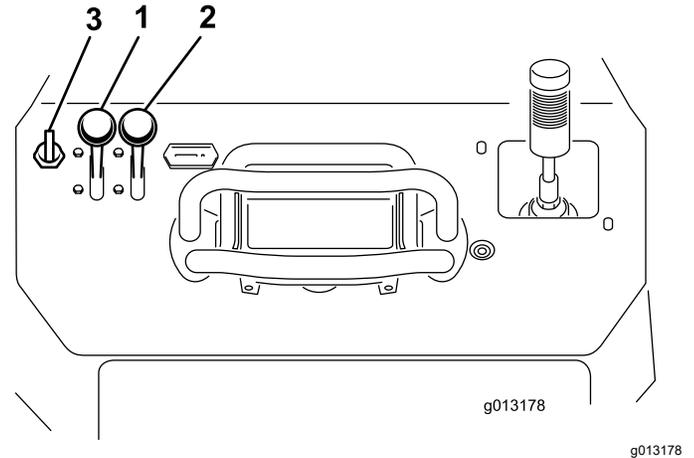

Figure 17
1. Move the throttle lever midway between the SLOW and FAST positions (Figure 17).
2. Move the choke lever to the ON position (Figure 17).
3. Turn the key to the ON position (Figure 17). When the engine starts, release the key.
4. Gradually move the choke lever to the OFF position (Figure 17). If the engine stalls or hesitates, engage the choke again until the engine warms up.
5. Move the throttle lever to the desired setting (Figure 17).